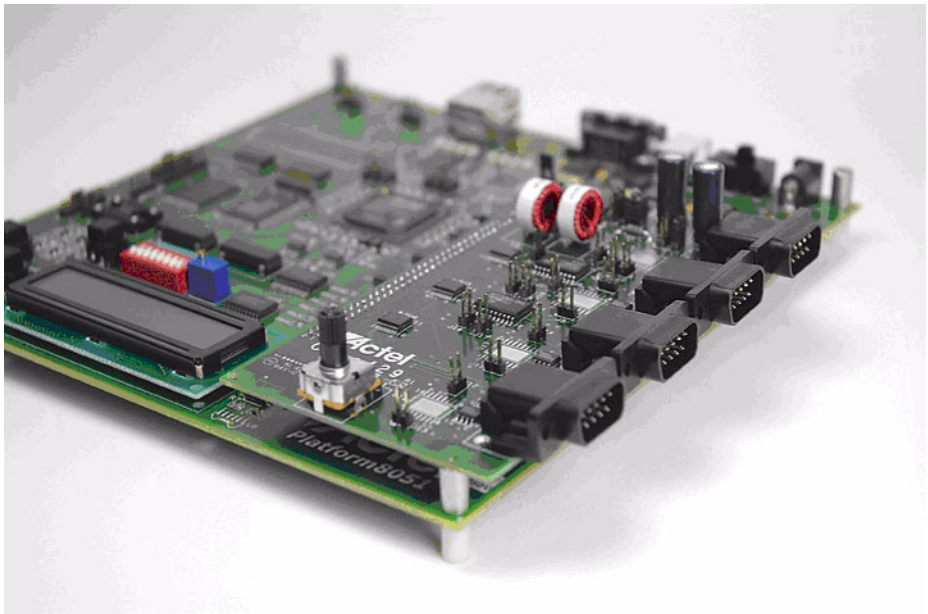

Figure 1. Platform8051 Development Board with Core429 Daughter Board Attached
The Core429 Demonstration kit allows users to evaluate the functionality of the Actel Core429 with a full development kit that includes Core429 FPGA programming files, ARINC (Aeronautical Radio, Inc.) 429 physical connections, example software, and full user documentation. The files included with the Core429 Development Kit CD (or available for download for use with the Platform8051 Development Kit) provide the user with the programming files necessary to program a ProASIC^{PLUS} APA600 to create a four-transmit and four-receive channel ARINC platform. The targeted FPGA (APA600) is mounted on the Platform8051 (PF8051) Development Board and ARINC 429 physical connections are included on the Core429 Daughter Board, which plugs directly onto Platform8051. With Core429 programmed into the FPGA and the Core429 Daughter Board connected to the Platform8051 Development Board (Figure 1), the customer has control of a complete ARINC 429 evaluation system.
- Platform8051 Development Board with ProASIC^{PLUS} APA600-FG676 (Figure 1 on page 5)
- Core8051 CPU (refer to the Core8051 Datasheet, page 3, Figure 1)